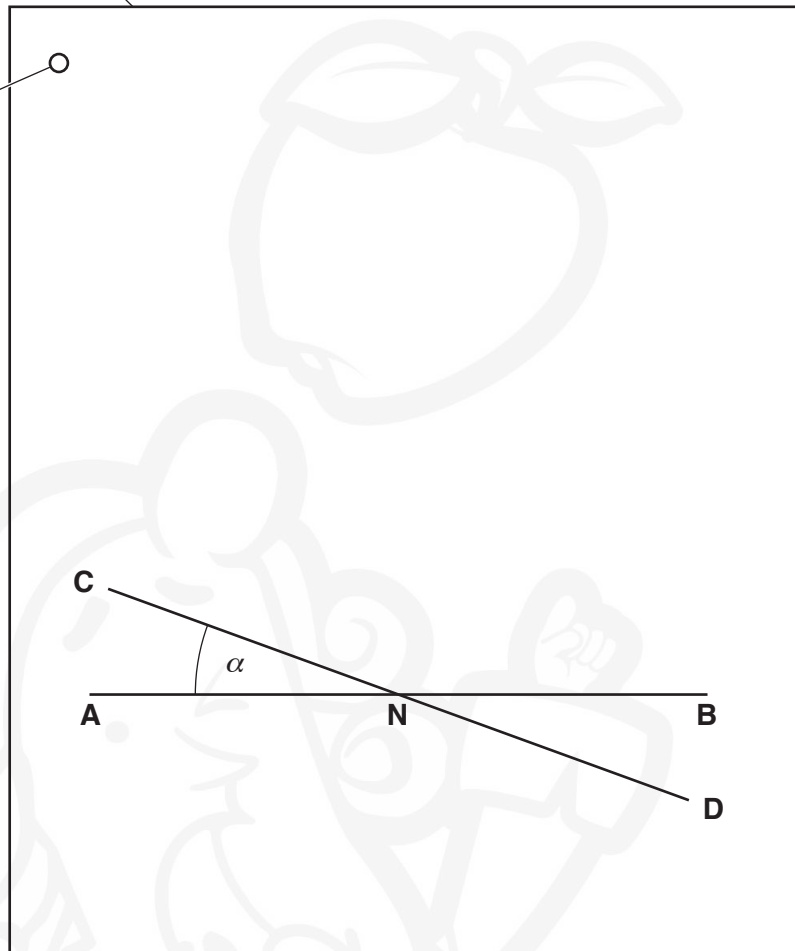

Fig. 3.1
- (a) Carry out the following instructions, using the separate ray-trace sheet provided. Refer to Fig. 3.1 for guidance.
- Place the reflecting surface of the mirror on line **CD** and view the images of P_1 and P_2 from the direction indicated by the eye in Fig. 3.1.